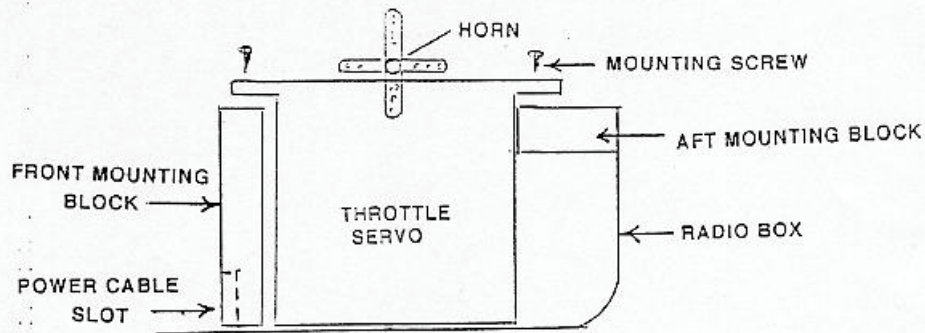

FIG. 4
- C. The next step is to mount the throttle servo in the Radio Box as shown in Fig.4 and Pic. #8. 1.
1. The throttle servo mounts next to the steering servo (see Pic. #8) and is held in Place forward and aft by 2 wood mounting blocks (Fig. 4) glued to the Radio Box.